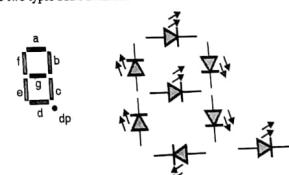

Fig. 9.3.3 : Structure of Seven Segment Display (SSD)
- As shown in the Fig. 9.3.3 the seven segment display uses seven LEDs to make any digit. If all the LEDs are on, it shows the digit 8. There are two types SSDs available.